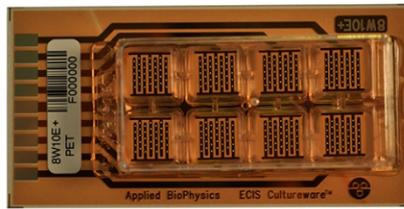

Figure 1. 8W10E+ Cultureware (Applied BioPhysics, <http://www.biophysics.com/cultureware.php#link8>)
2. 8W10E+ Cultureware (Figure 1)